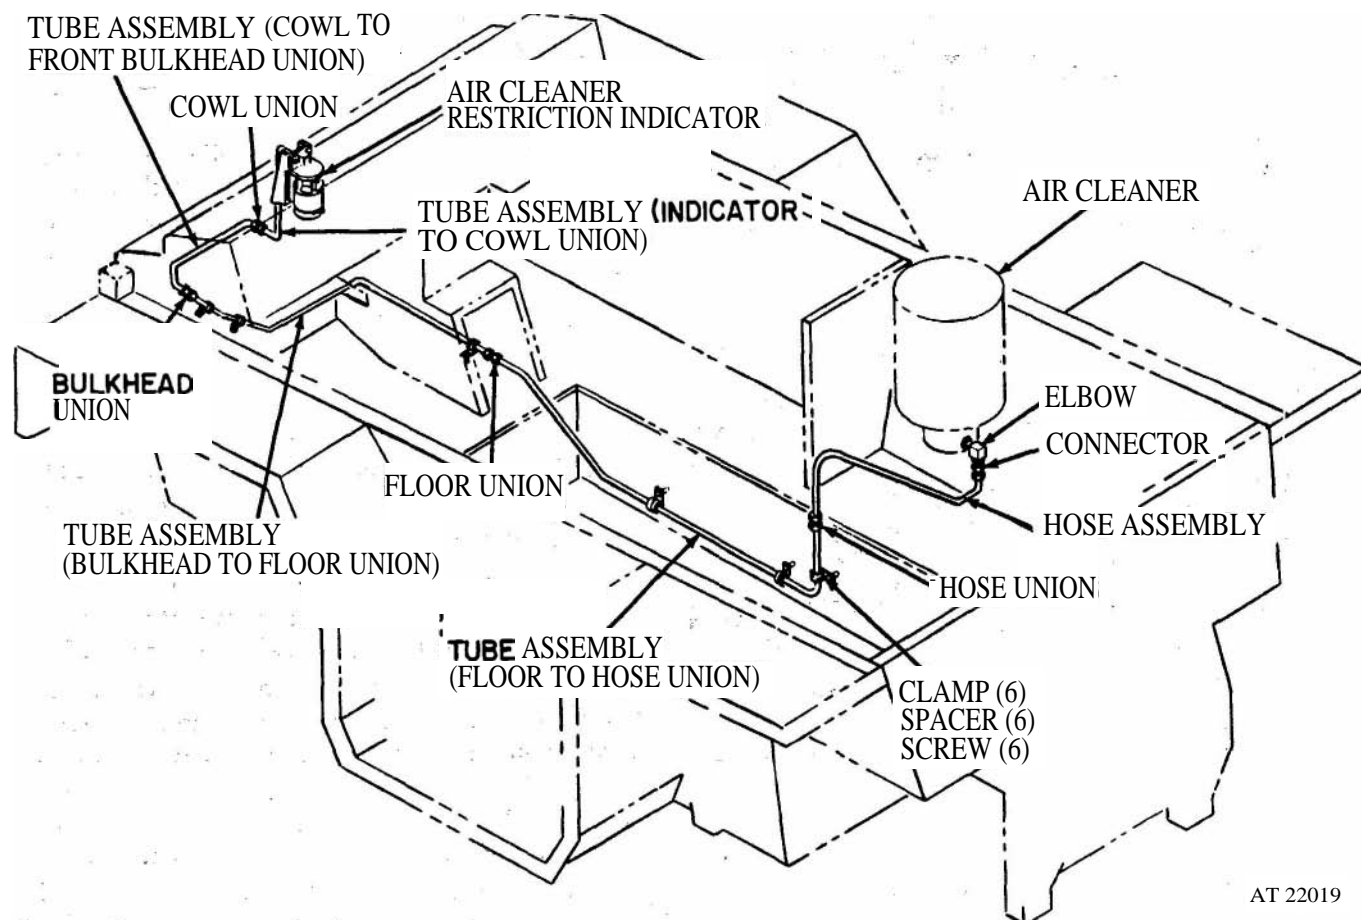

Figure 2-368. **Cleaner-to-indicator** tubes and fittings, removal and **installation**.
- (1) Remove console (refer to para 2-33).
- (2) Remove tractor seats (refer to para 2-221).
- (3) Remove right air duct panel from tractor by removing sixteen screws.
- (4) Open and secure engine cover.
- (5) Remove indicator from mounting bracket and fitting from indicator (refer to para 2-270).
- (6) Remove indicator to cowl union tube assembly by disconnecting at cowl union. Remove cowl union and, if damaged, grommet (fig 2-368).
- (7) Disconnect cowl to front bulkhead tube assembly by disconnecting at bulkhead union. Remove tube assembly and bulkhead union.
- (8) Disconnect bulkhead to floor tube assembly at floor union. Remove tube assembly by removing screws, clamps, and spacers securing tube assembly to tractor. Remove floor union.
- (9) Disconnect floor to hose assembly at hose union. Remove tube assembly by removing screws, clamps, and spacers securing tube assembly to tractor. Remove floor union.
- (10) Remove hose assembly to air cleaner by disconnecting at connector to elbow. Remove connector and elbow from air cleaner.
- (1) Install elbow and connector on air cleaner base (fig 2-368).
- (2) Position and secure hose assembly to connector at elbow on air cleaner. Install union on hose assembly.
- (3) Position and secure floor tube assembly to union on hose assembly. Install union on floor tube assembly. Place three clamps on tube assembly, position spacers and secure with screws.
- (4) Position and secure bulkhead tube assembly to union on floor tube assembly. Install union on bulkhead tube assembly. Place three clamps on tube assembly, position spacers and secure with screws.
- (5) Position and secure cowl tube assembly to union on bulkhead tube assembly. Install union on cowl tube assembly.
- (6) If necessary, install grommet in cowl. Position and secure indicator tube assembly to cowl union.
- (7) Install fitting on indicator and **secure** indicator to tube assembly and mounting bracket (refer to para 2-270).
- (8) Close and secure engine cover.
- (9) Position and **secure** air duct panel with sixteen screws.
- (10) Install console (refer to para 2-33).
- (11) Install tractor seats (refer to para 2-221).